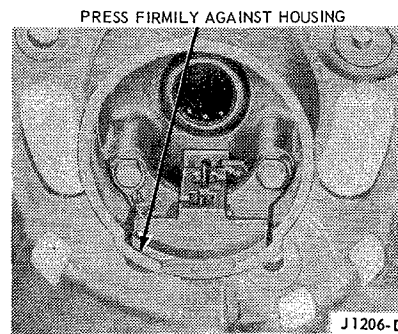

FIG. 15 Brush Lead Positions
- Position the brush holder assembly in the rear housing and install the mounting screws. Position the brush leads in the brush holder as shown in Figure 15.